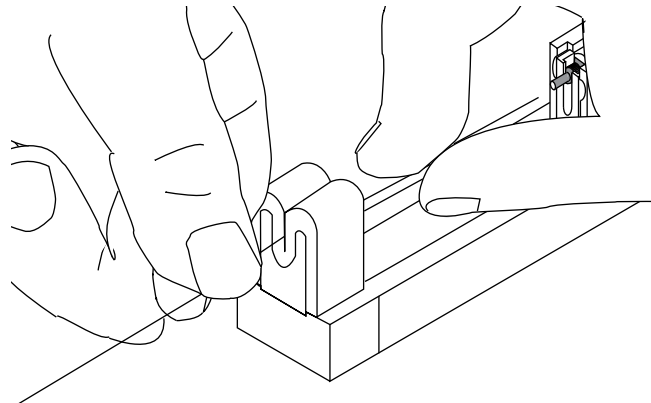

Figure 6
5.5 Holding the fiber by its coating, push the first fiber down into the foam clamps (Figure 6). Slide the fiber into the CamSplice splicer until it stops. To ease the fiber's entry into the CamSplice, the fiber can be slightly twisted or "rolled" during insertion. *There should be no bend in the first fiber at this point.*